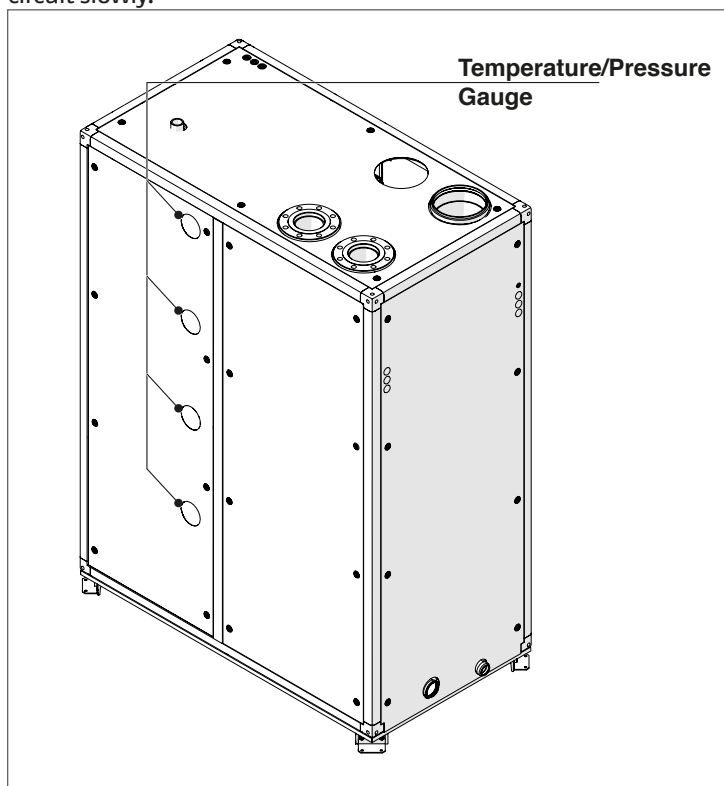

Fig. 59 Temperature/Pressure Gauge location
- Open the fill valve and proceed to fill the heating system and boiler until the pressure gauge (shown on Fig. 59), reads the pressure for which the heating system is sized. The heating system water pressure must be higher than 7.5 PSI.
If the pressure inside the heating circuit falls below the minimum pressure for the system (7.5 PSI), the appliance switches off and the 905PB inner display shows "Low water pressure" to indicate that it is necessary to restore the correct pressure. Open the filling valve and check the pressure on the temperature/pressure gauge of Fig. 59.